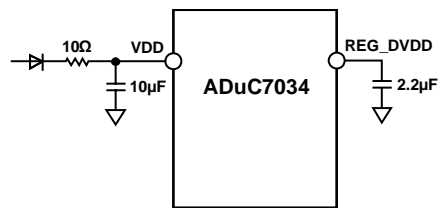

Figure 1. External Power Supply Decoupling Components
**Workaround:** As previously noted, a fast VDD ramp (that is, ramping from  $\sim$ 1.2 V to 12 V in  $<$ 100  $\mu$ s) is required as one of the conditions to initiate the reported POR issue. Analog Devices recommends careful selection of external power supply decoupling components to ensure that the VDD supply ramp rate can always be guaranteed to be  $>$ 100  $\mu$ s under all VBAT power-on conditions. Specifically, Analog Devices recommends using a 10  $\Omega$  series resistor (1% tolerance maximum) and a 10  $\mu$ F decoupling capacitor (20% tolerance maximum) to ground on the VDD line between the reverse protection diode and the VDD, as shown in Figure 1.